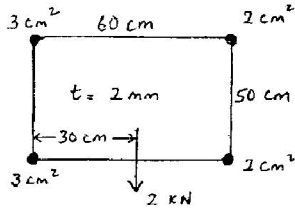

Fig. 4 Qn. 13 (a)
13. (a) The webs of the structure shown in Fig. 4 are effective in bending. Plot the shear flow distribution.